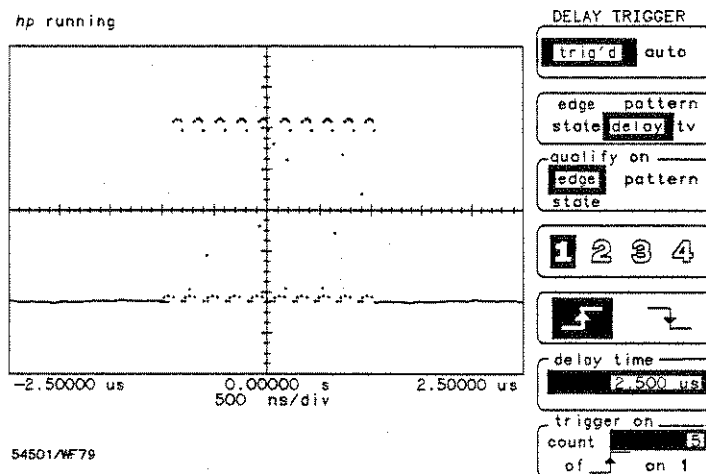

Figure 6-15. Ten Burst Pulse Triggered on Pulse 5
- Return to the trigger menu and set *trigger on count* to 5. This tells the oscilloscope to trigger on the 5th rising edge of the burst (see Figure 6-15).